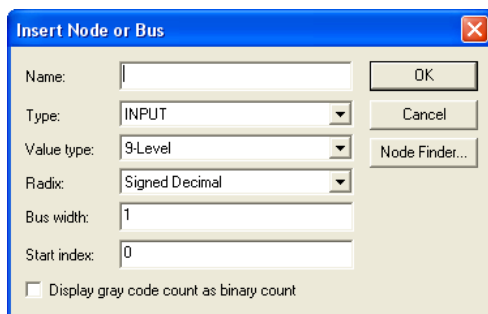
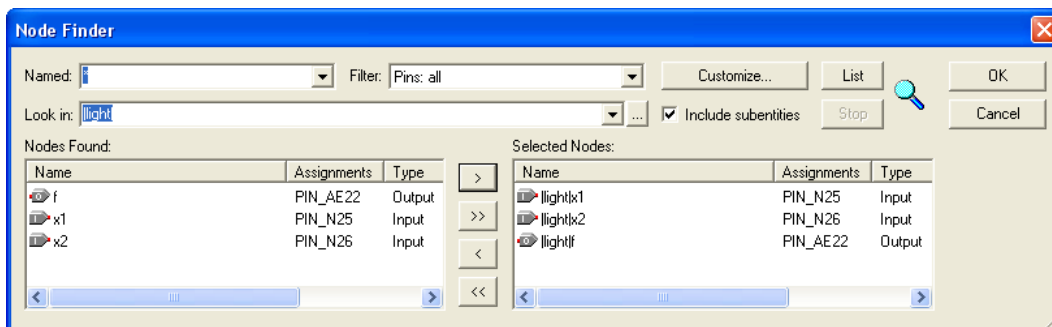
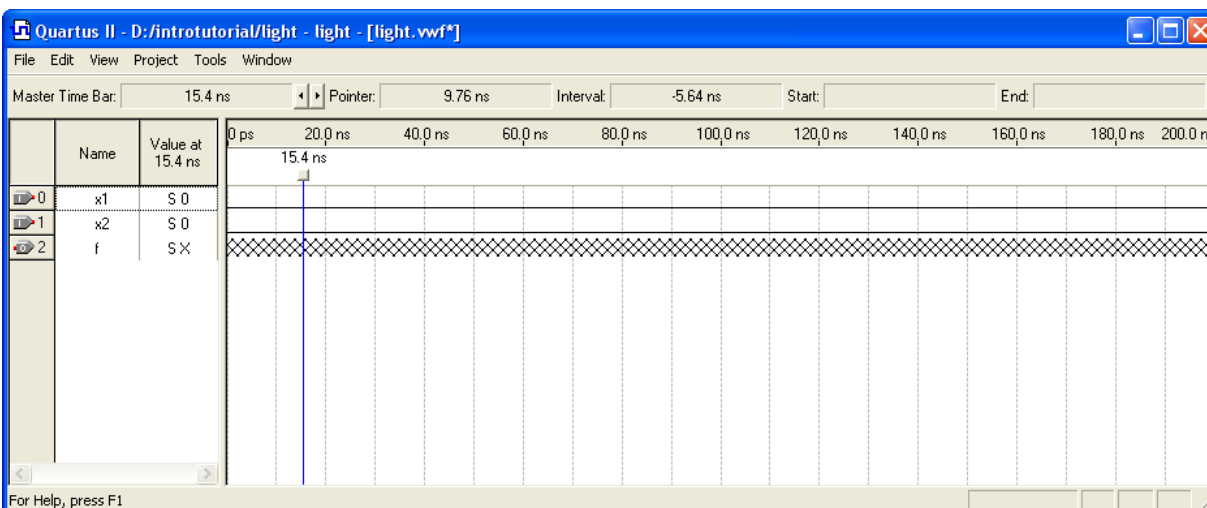

Figure 33. The Insert Node or Bus dialogue.
Figure 34. Selecting nodes to insert into the Waveform Editor.
Figure 35. The nodes needed for simulation.
- Next, we want to include the input and output nodes of the circuit to be simulated. Click **Edit > Insert > Insert Node or Bus** to open the window in Figure 33. It is possible to type the name of a signal (pin) into the Name box, but it is easier to click on the button labeled **Node Finder** to open the window in Figure 34. The Node Finder utility has a filter used to indicate what type of nodes are to be found. Since we are interested in input and output pins, set the filter to **Pins: all**. Click the **List** button to find the input and output nodes as indicated on the left side of the figure.
Click on the *x1* signal in the Nodes Found box in Figure 34, and then click the > sign to add it to the Selected Nodes box on the right side of the figure. Do the same for *x2* and *f*. Click OK to close the Node Finder window, and then click OK in the window of Figure 33. This leaves a fully displayed Waveform Editor window, as shown in Figure 35. If you did not select the nodes in the same order as displayed in Figure 35, it is possible to rearrange them. To move a waveform up or down in the Waveform Editor window, click on the node name (in the Name column) and release the mouse button. The waveform is now highlighted to show the selection. Click again on the waveform and drag it up or down in the Waveform Editor.